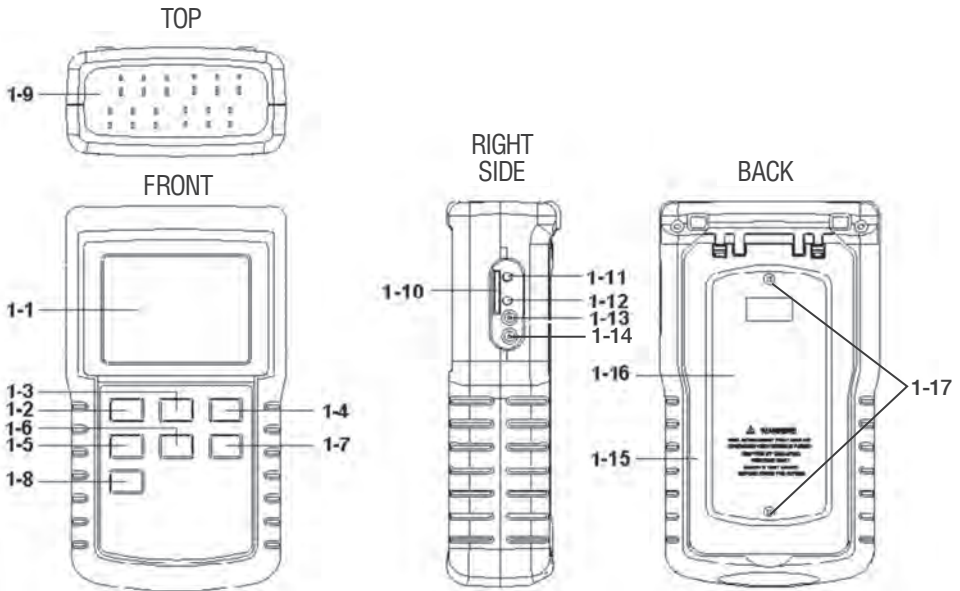

Fig. 1. The RDXL12SD's controls and indicators and other physical features
Figure 1 shows all of the controls and indicators on the front, right side, back and top of the RDXL12SD. Familiarize yourself with the positions and functions of these controls, indicators and connectors before moving on to the Setup Instructions.
2. To use “K” type thermocouples to measure up to 12 channels of temperature, plug one to 12 of them (two are supplied, others are available for purchase from General) into the jacks (callout 1-9 of Fig. 1) on the top of the temperature recorder. Make sure jack T1 is occupied. Because “K” is the instrument’s default thermocouple type, plugging in up to eight “K” type thermocouples will instantly produce up to eight display readings. Any of the eight channels that are not used will show the overrange reading “- - - -”.